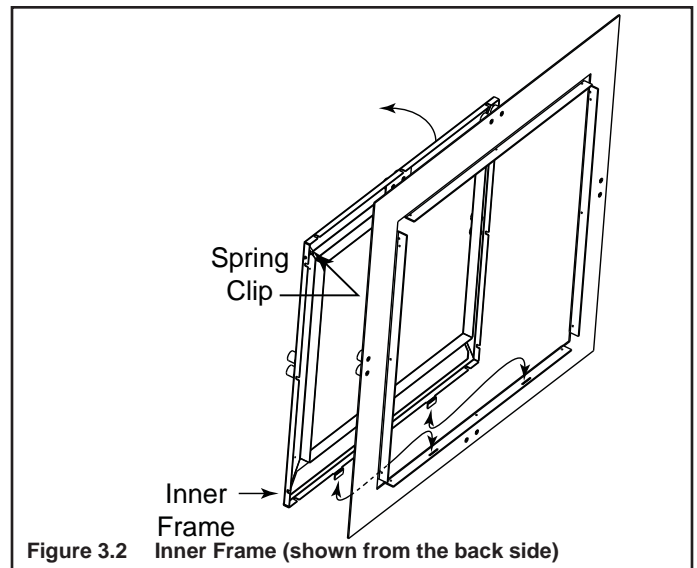

Figure 3.2 Inner Frame (shown from the back side)
- Pull the spring clips (located at the top inside of the inner frame) towards the center of the frame, rotate the top of the frame out of the fireplace. See Figure 3.2.